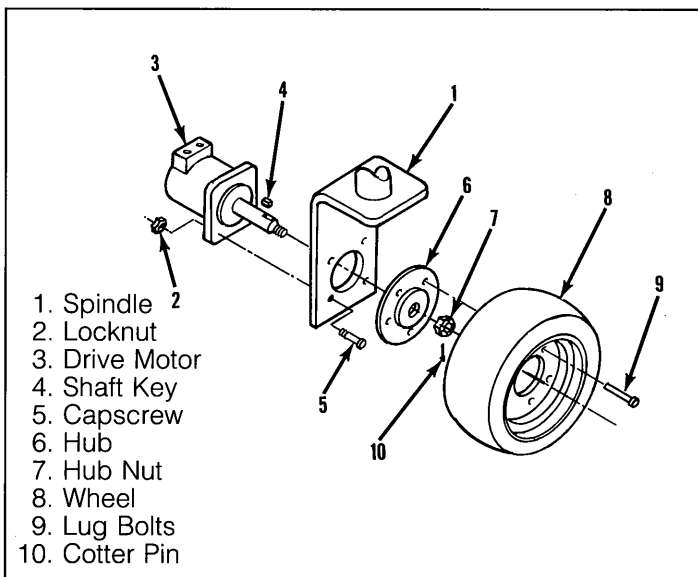

Figure 5-10. Drive Motor Removal
a. Removal (Figure 5-10).
- (1) Park the work platform on firm level ground then block the wheels to prevent the work platform from rolling.
- (2) Loosen the wheel lug bolts on the front corner to be raised.
- (3) Use a 1.5 ton capacity jack to raise the desired front corner.
- (1) Refer to Figure 5-10 and position the drive motor on the yoke and secure with capscrews and locknuts.
- (2) Remove the plugs from the tube assemblies and connect to the drive motor.
- (3) Install the shaft key, hub and slotted nut. Torque the locknut to 350 to 400 ft. lb. Install the cotter pin.
- (4) Install the wheel with capscrews onto the hub. Torque to 40 ft. lb.
- (5) Lower the jack and remove. Operate the drive system and check for leaks.